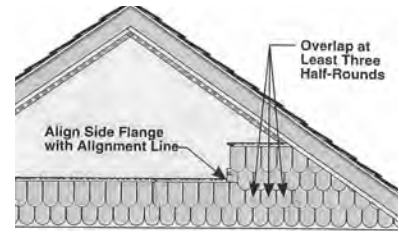

Fig.28
- b. Measure from the Left Side Flange making sure to stagger the laps by at least 3 half-rounds (Figure 28).
- c. Align Left Side Flange with nearest Alignment Line of course below (Figure 28).